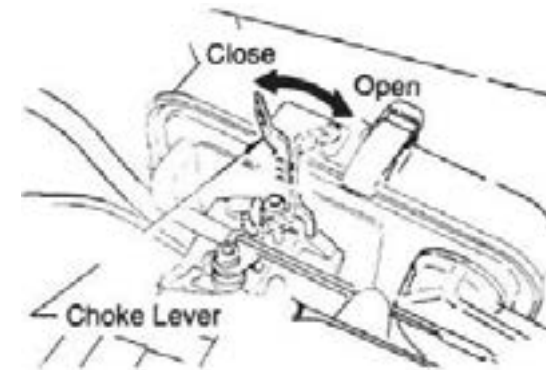

Fig 7
3. Close the choke lever (Fig 7) and move the throttle lever to the Full Open position. Rotate the choke lever 90 degrees clockwise to close it. In cold weather, commence starting with the choke fully closed. In warmer weather or when the engine is already warm, the unit can be started with the choke halfway or completely open.
5. If the engine fails to start, adjust the choke lever (Fig 7) to the half-open position to prevent flooding.